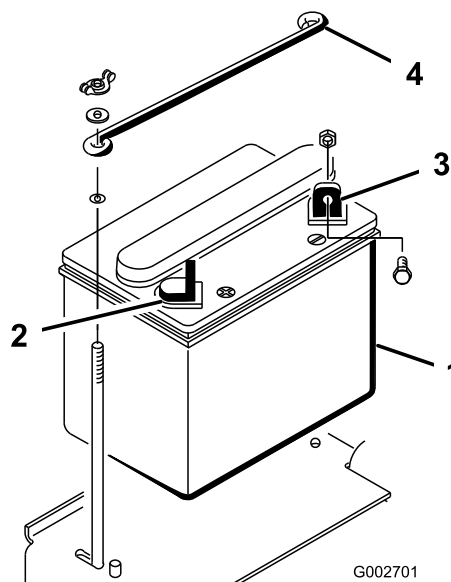

Figure 4
1. Set the battery in place, with the negative terminal positioned to the rear of the machine (Figure 4).